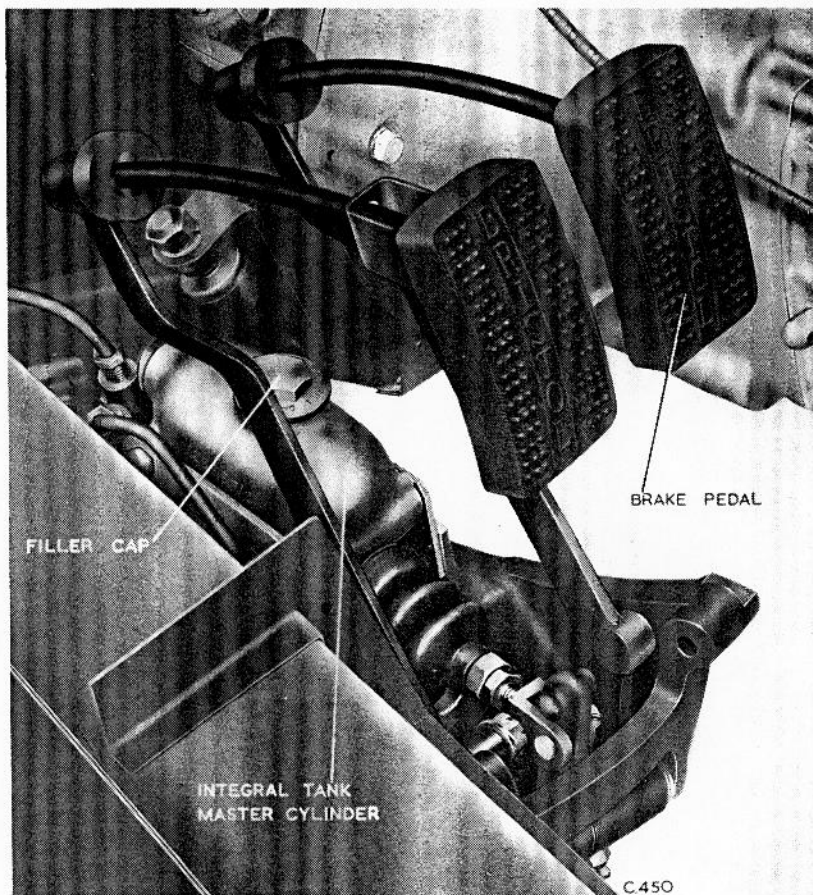
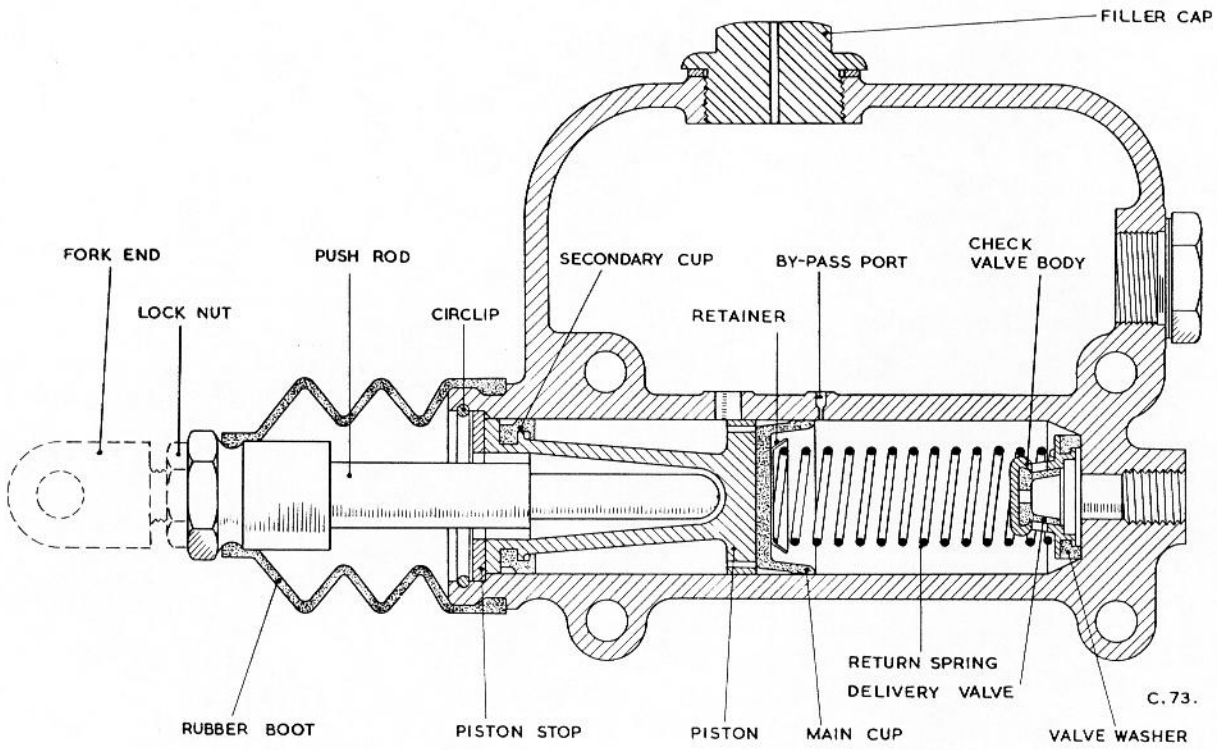

Fig. 3 Brake and clutch pedal unit.
Fig.4 Integral tank master cylinder.
1. An integral tank master cylinder fitted in the brake clutch pedal unit, see Fig. 3.
This unit is illustrated in position in the brake and clutch pedal unit in Fig. 3 and a section view is shown in Fig. 4.
The end-float between the push rod and the piston of the integral type master cylinder (see Fig.4) is adjusted correctly by the car manufacturer. The correct
setting allows the brake pedal to be depressed $\frac{1}{2}$ in. before the piston commences to move. This is best checked by hand. An incorrectly positioned mat or other obstruction on the floor board may prevent complete return of the pedal to the "off" position, and may take up the necessary end-float when, actually, the adjustment is correct. If adjustment is necessary, release the locknut, see Fig.4, and rotate the push rod in the thread of the fork end. Lock again securely when adjusted correctly. It is essential to have clearance between the push rod and piston or the by-pass port to the reservoir may be obstructed and cause brake drag.